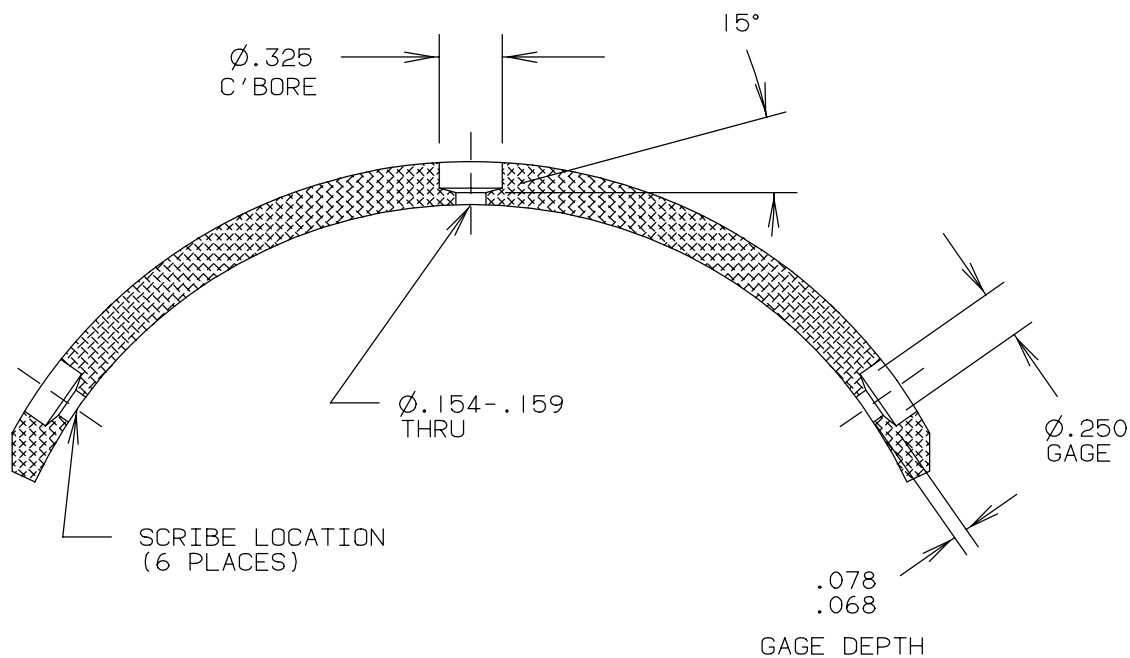

Figure 205 - Installation of 066-00504 Lining to Brake Shoe
- 4 Drill and counterbore lining as shown in Figure 205 (6 places).